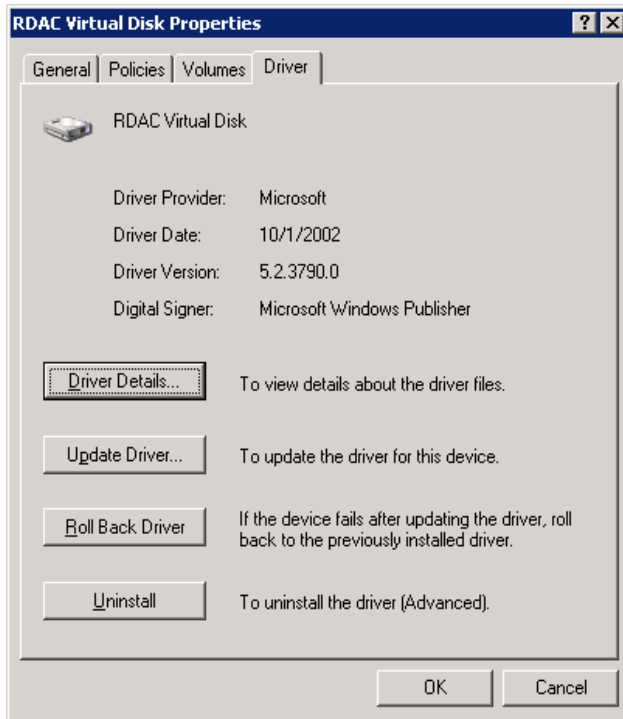
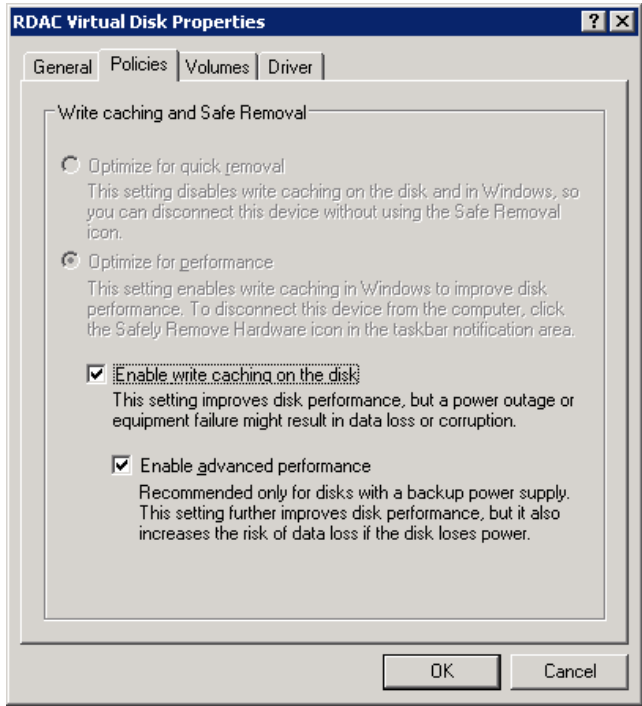

Figure 2: General RDAC driver properties
Figure 3: RDAC Windows write caching and advanced performance
- Enable Microsoft® Windows® RDAC driver write caching and advanced performance for each drive. Refer to Figure 2 and Figure 3.